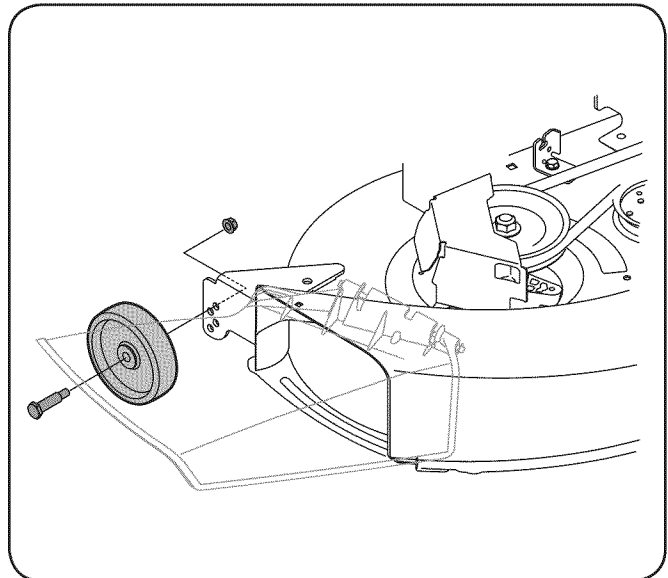

Figure 3-10
- b. Remove the gauge wheels by removing the lock nuts and shoulder screws which secure them to the deck. See Fig. 3-10.